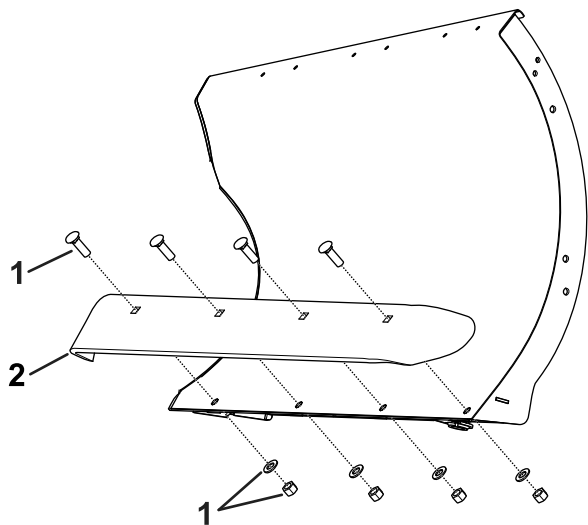

Figure 1
3. Remove the bolts, washers, and nuts that secure the cutting edge to the plow and discard them (Figure 1).